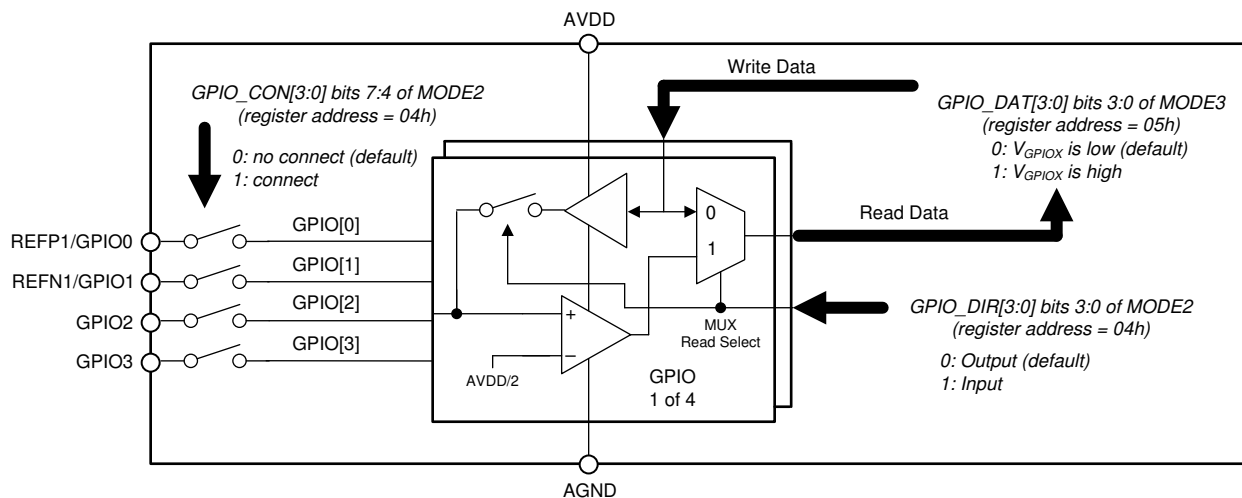

图 64. GPIO Block Diagram
The ADC provides four GPIO pins (GPIO0 through GPIO4). The GPIO are digital inputs and outputs with logic values that are read and written by the GPIO\_DAT bits of the **MODE3** register. Two GPIOs are available on dedicated pins and two GPIOs are multiplexed functions with an external reference (REFP1 and REFN1). The GPIO input and output levels are referred to AVDD and AGND. As **图 64** shows, the input threshold value is  $AVDD / 2$  (typical). The GPIO\_CON[3:0] bits set the GPIO connection to the designated pin (1 = connected). The GPIO\_DIR bits program the direction of the GPIO as an input (1) or output (0). The GPIO\_DAT[3:0] bits are the data values for the GPIO. If a GPIO pin is programmed as an output, the value read is the register data previously written.